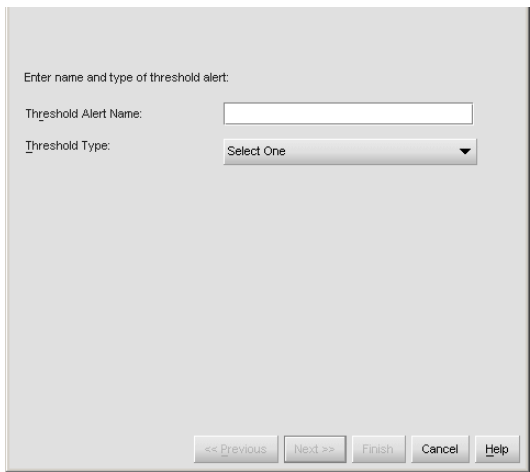

Figure 46 New Threshold Alerts dialog box - first screen
- 2. Click **New**. The New Threshold Alert dialog box appears, as shown in Figure 46.